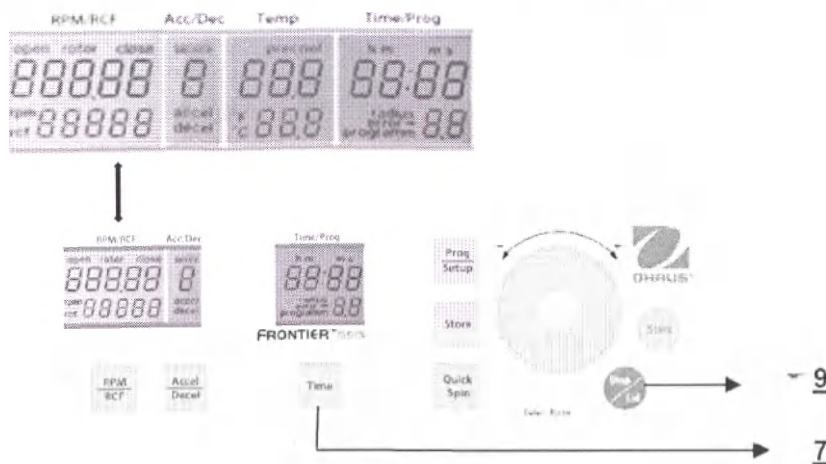

Figure 28
While the centrifuge is turned off, press simultaneously the keys **"Time"**(7) and **"Stop/Lid"** (9) and turn on the main switch of the centrifuge. Now release both keys and as a result a display test is executed for approx. 5 seconds. All indicators will appear at the same time (See figure 28).